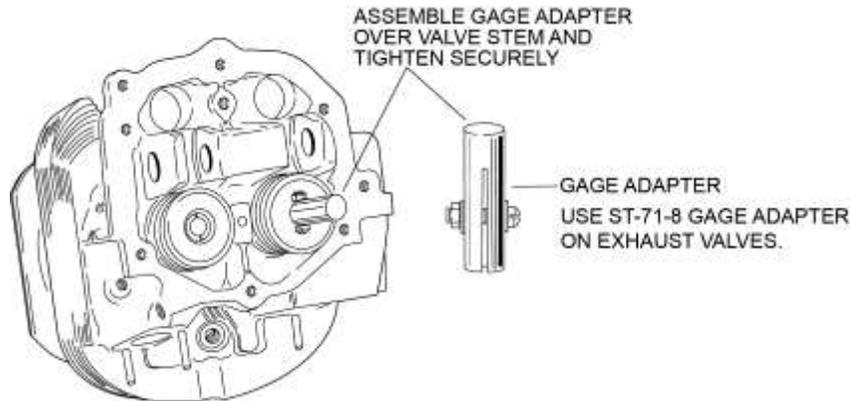

Figure 7
(19) Install the Gage Adapter (ST-71-8) over the top of the valve stem (Figure 7). Make sure it is tight.